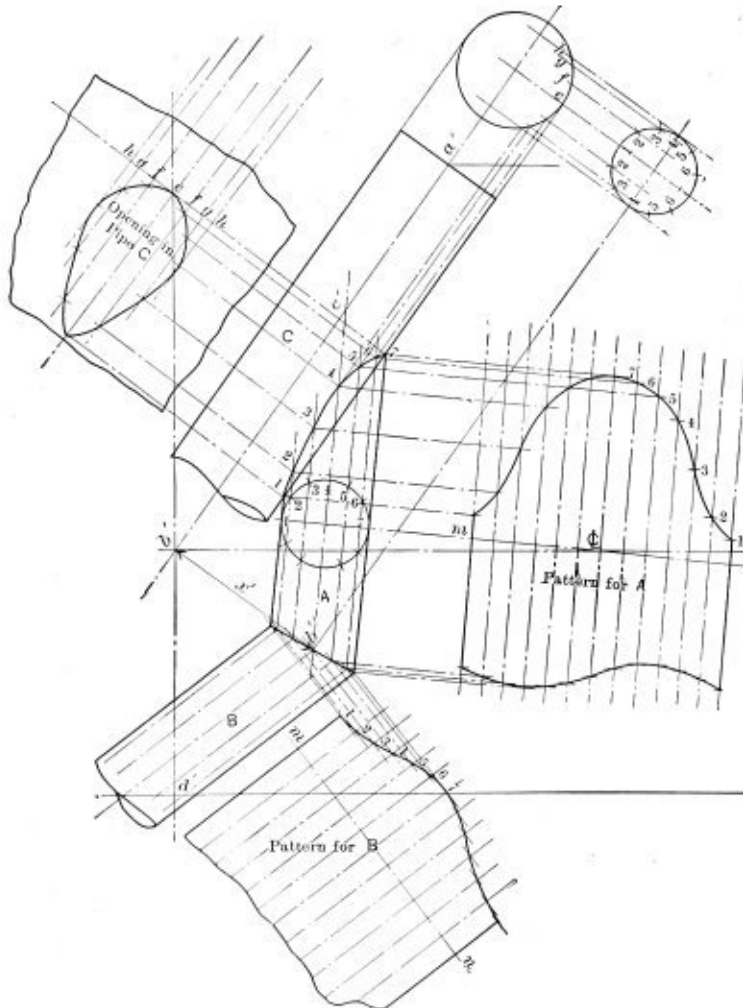
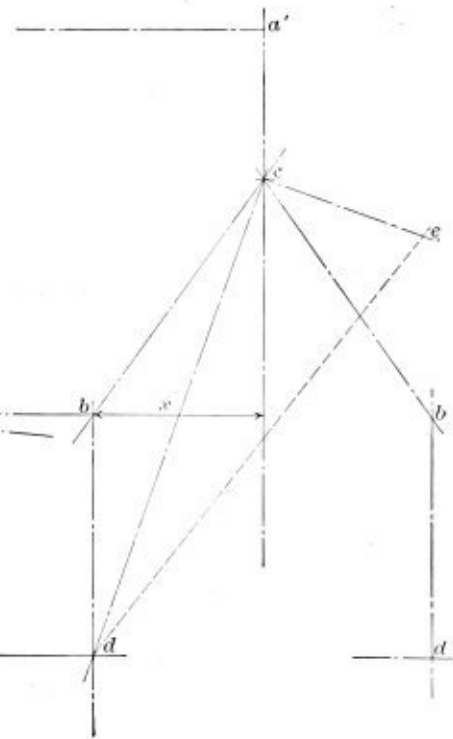
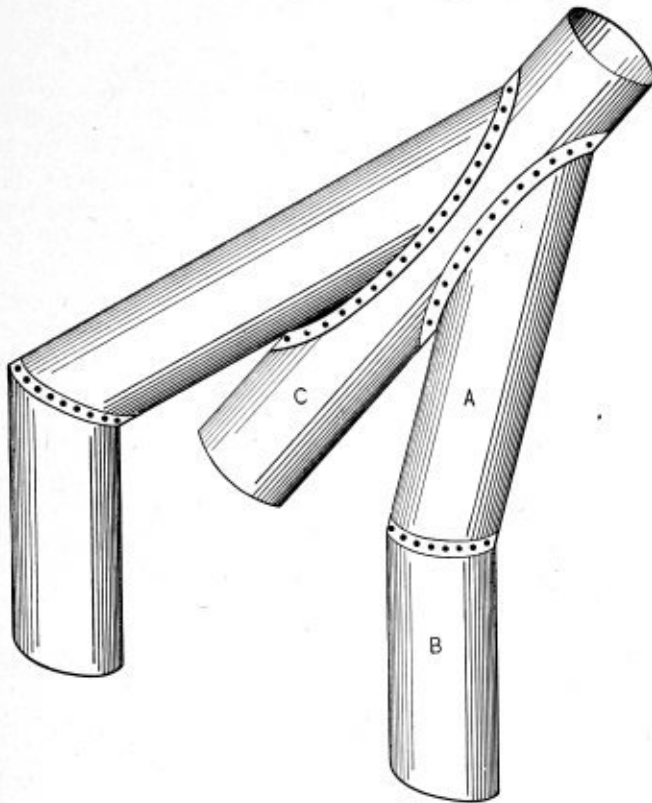
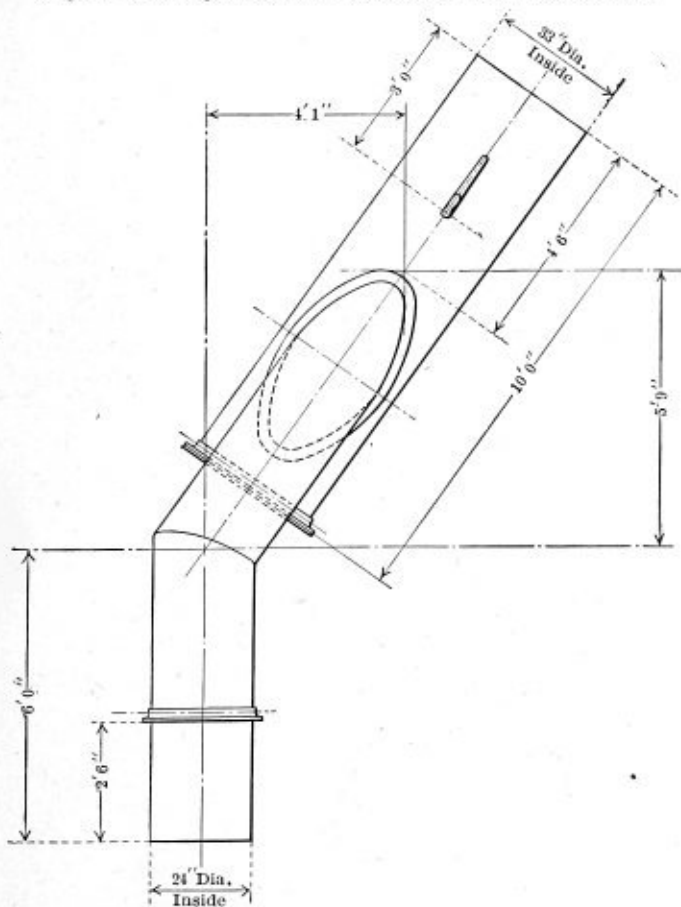

Fig. 1.—Showing Complete Laying Out of Pattern
Fig. 2.
Fig. 3.—Showing General Arrangement of Pipes *A*, *B* and *C*
Fig. 4.—Showing Working Drawing of Pipe Connection
Q.—Please give a layout of pipe connections shown in accompanying drawings. Fig. 4 gives the working drawing in question. E. C.
A.—A general idea of the pipe arrangement is shown in Fig. 3. It will be seen that pipes *A* and *C* lie in the same plane, and that *A* and *B* are in the same plane. The axes *a' b' d'*, Fig. 1, and *a b c d*, Fig. 2, are drawn in the same relationship as on the working drawing, Fig. 4. The
true angle between pipes *A B* and *C* are found in Fig. 1, before the patterns are laid off and in this manner:
At right angles to line *a' b'* and from point *b'* draw the line *b' b''*; make *x'* equal to *x* of Fig. 2, and connect *b'' c'* with a straight line. Before the angle *d' b' c'* is laid off draw the right angle triangle *c d e* in Fig. 2. The base line *c d* connects the extremities of the pipe axes *A* and *B* in this view, and *c-e* equals the distance *x*. The line
*e-d* is the true length of *c-d*. Using the line *e-d* and *b-d*, Fig. 2, the angle between pipes *A* and *B* is found as follows:
With *c'* as a center, Fig. 1, and using *e-d*, Fig. 2, as a
radius, describe an arc; with *b-d*, Fig. 2, as a radius and *b''*, Fig. 3, as a center, describe an arc intersecting the one previously drawn in point *d*. Bisect the angle *d b'' c'*